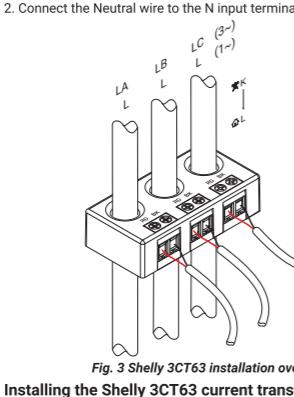

Fig. 3 Shelly 3CT63 installation overview
1. Connect the stripped ends of the 3 signal cables to the corresponding Shelly 3CT63 terminals following the RD-BK (Red-Black) color marking as shown in Fig. 3.
3. Thread the LA, LB, and LC phase wires, which carry the currents you want to measure, through the conductor apertures of Shelly 3CT63. For a single-phase setup, thread the Live wires (L) through the conductor apertures (Fig. 3).